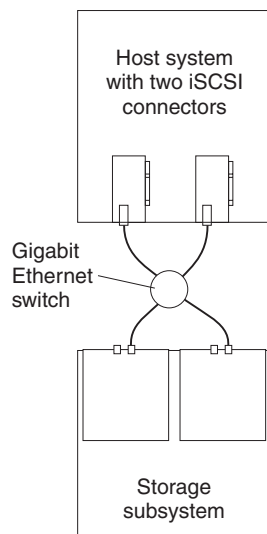

Figure 60. Example of a single-host, multiple-port configuration
- Single-host, multiple-port configuration, as shown in Figure 60
Figure 60 shows an example of a multiple port, single-host configuration. A system that uses multiple iSCSI ports can provide enhanced performance compared to a single-port iSCSI connection.